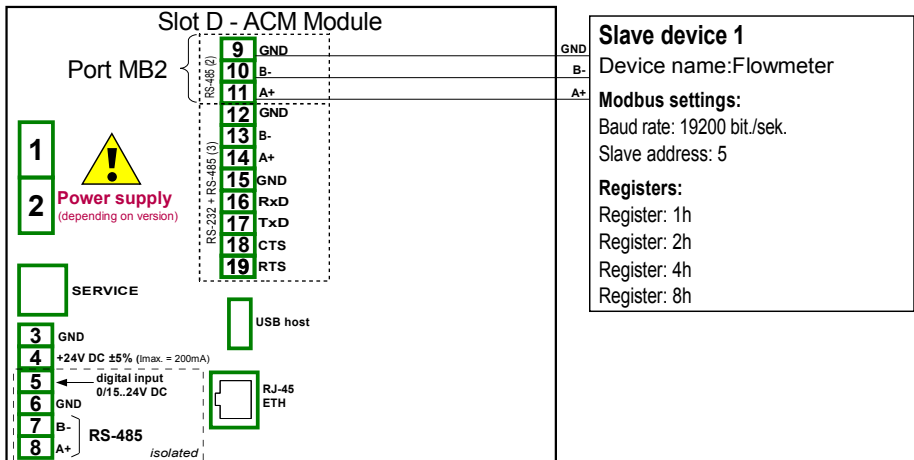

Fig. 7.130. Connection diagram for the Modbus port MB2
First we need to configure the device according to the following recommendations, then connect the device according to **Fig. 7.130.**
- using the arrows in upper right corner choose **Port number: 1 (MB1)** in accordance with **Fig. 7.130**),